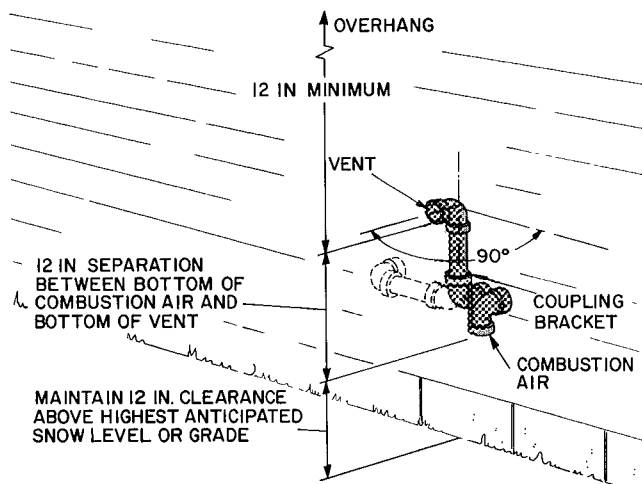

Fig. 4 — Sidewall Vent Terminal Installation (12 in. above snow level or grade)
Install kit as follows when combustion-air and vent pipes exit through sidewall 12 in. or more above highest anticipated snow level or grade (Fig. 4).
NOTE: The solid-line arrangement in Fig. 4 is preferred. The dashed-line arrangement is an option for the vent pipe only.
3. Install elbows as shown in Fig. 4. Clean them and apply cement using procedures described in Combustion-Air and Vent Piping.
4. Install bracket as shown in Fig. 4.
5. Position vent-pipe assembly, maintaining a 12-in. separation. Cement vent pipe in elbow as shown in Fig. 4.
6. For applications using vent-pipe option (indicated by dashed lines in Fig. 4), rotate elbow 90° from position shown.